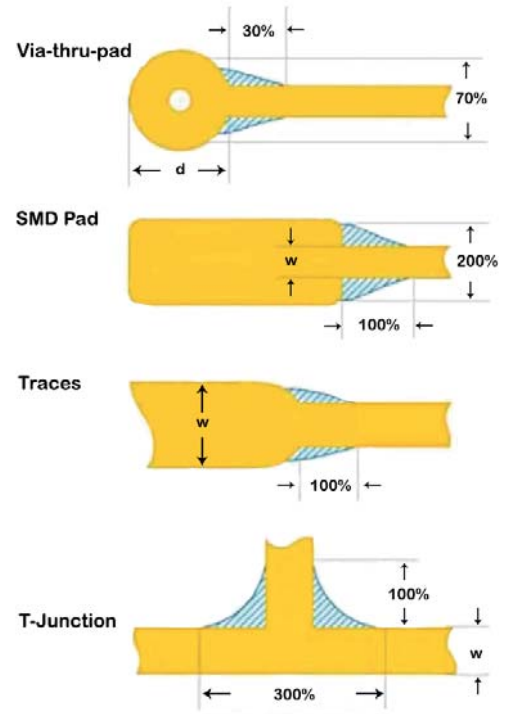

Figure 5: Teardrops increase trace strength and improve the yield.
- 2. Strengthen traces and vias with teardrops:** If not controlled, bending the substrate can lead to delamination and product failure. Traces and vias can, however, be strengthened to prevent delamination. Substitute teardrop pads (Figure 5) for circular pads. Teardrops add additional material, strengthening the pad to prevent delamination. Using teardrops can also produce better yield in manufacturing by giving more drilling tolerance.